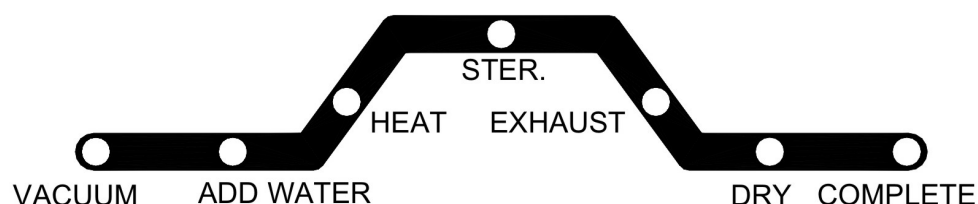

Figure 48
- D. Press the START Button , the setting temperature, duration, and dry time displayed two times on the three-digit display, and then the sterilizer will automatically run through the selected program. The current progress of the sterilization cycle is indicated by the illuminated LED on the Process Status Indicator. (Figure 48)